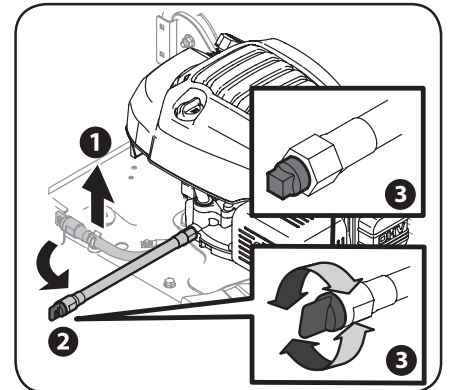
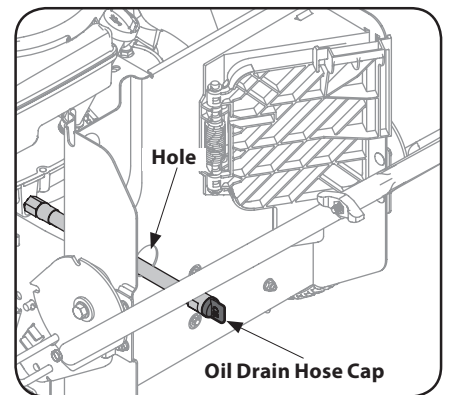

Figure 4-3
Figure 4-4
Each of the front wheel axles and casters is equipped with a grease fitting. See Figure 4-3. Lubricate with a No. 2 multi-purpose grease applied with a grease gun after every 25 hours of mower operation or once a season.
1. Pull up the oil drain hose to release it from the deck. See Figure 4-3 for MTD engine and Figure 4-4 for Briggs & Stratton engine.
NOTE: The engine is equipped with either a plastic twist-off or metal square head cap. Refer to Figure 4-3 insets.
NOTE: For units equipped with the Briggs & Stratton engine and bagger, remove the bagger from the mower, which will expose a hole in the back plate of the mower when the bagger door closes to pass the oil drain hose through. See Figure 4-4.
3. Unscrew the cap on the end of the oil drain hose to begin draining oil. See Figure 4-3 inset.